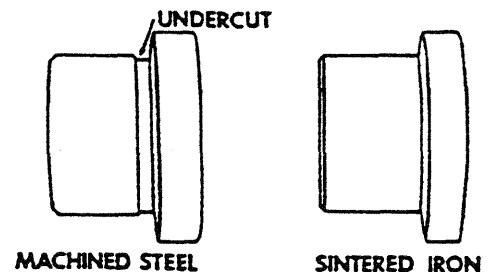

Figure 712. Machined Steel and Sintered Iron Bushings
A. Inspect Bushing (5).
- (1) Inspect for wear or deformation. Look particularly at surface where lockwasher or nut contacts bushing. If wear or deformation is present, replace bushing (5).
- (2) Sintered iron bushing with shoulder must be replaced with machined steel bushings (5). The machined steel bushings have an undercut 0.062 in. wide by 0.005 in. deep immediately behind the bushing shoulder (see Figure 712). Refer to illustrated parts list for correct part numbers. After compliance with this step, magneto P/N 10-51360-30 becomes new P/N 10-51360-37. Overstamp the nameplate (52) with the new part number. All other part number magnetos complying with this step shall be identified by stamping a 1/8 inch high letter "B" in the lower left-hand corner of the nameplate. Discard old style bushing.